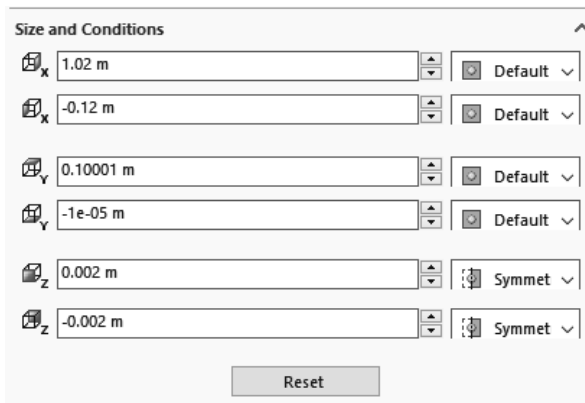
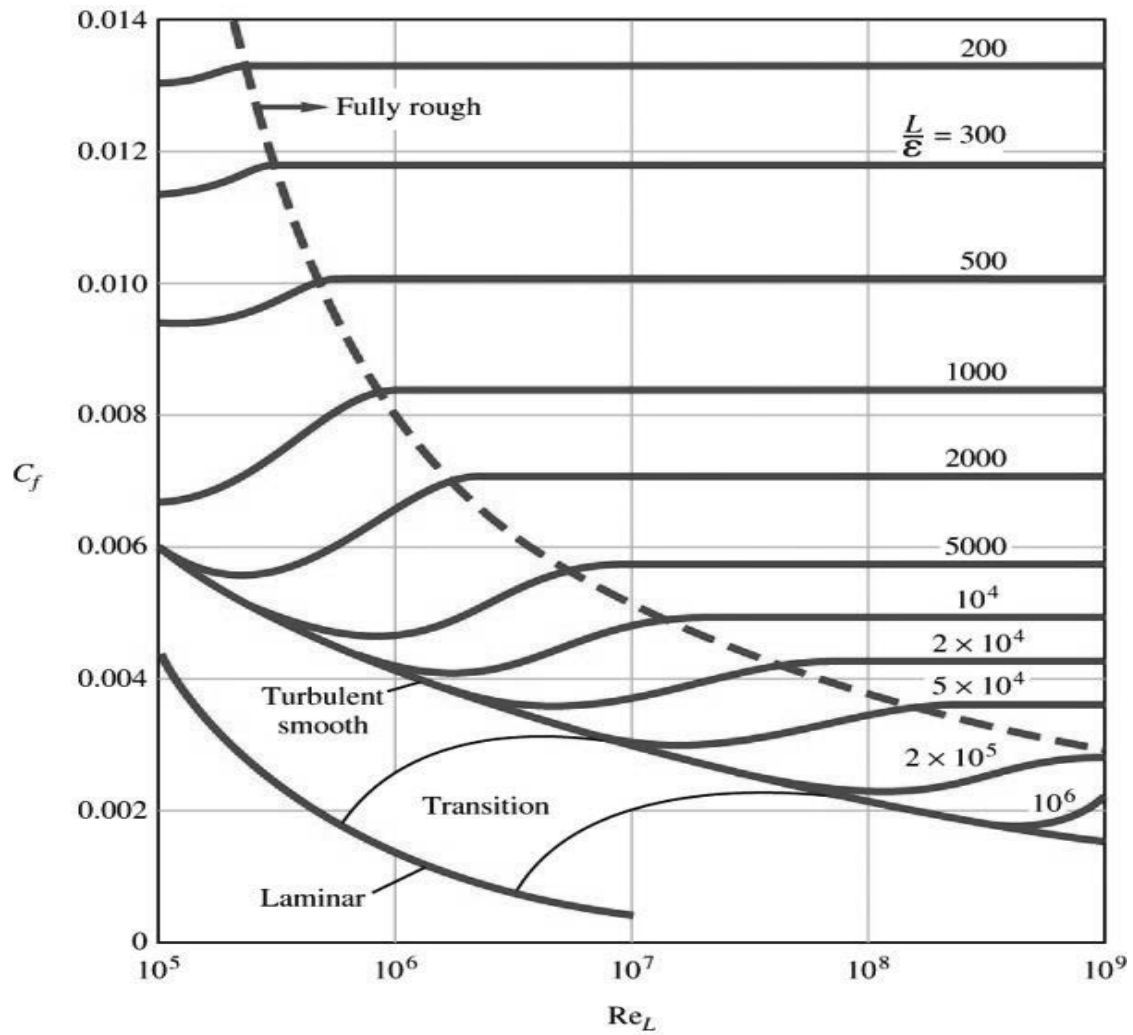

Figure 2.28a) Setting the size of the computational domain
Figure E3. Average friction coefficient for flow over smooth and rough flat plates, White (1999)
28. Select the tab **Flow Simulation>>Computational Domain...** Set the size of the computational domain to the values shown in figure 2.28a). Click on the **OK** button to exit. Select **Tools>>Flow Simulation>>Global Mesh...** from the SOLIDWORKS menu, select **Manual Type** and change the **Number of cells per X:** to **400** and the **Number of Cells per Y:** to **200**. Also, click on **Control Planes**. Change the **Ratio** for **X** to **-5** and the **Ratio** for **Y** to **-100**. Click on the green check mark above Ratio for Y min – Y max, see Figure 2.28b). This will increase the number of cells close to the wall where the velocity gradient is high. Select **Tools>>Flow Simulation>>Calculation Control Options...** from the SOLIDWORKS menu. Change the **Maximum travels value** to **5** by first checking the box for **Travels** under the **Finishing** tab and changing to **Manual** from the drop-down menu. Set the value to **5**. Travel is a unit characterizing the duration of the calculation. Click on the **OK** button to exit.
The average friction coefficient over the whole plate C_f is a function of the surface roughness for the turbulent boundary layer and also a function of the Reynolds number based on the length of the plate Re_L , see figure E3 in Exercise 8. This friction coefficient can be determined in Flow Simulation by using the final value of the global goal, the X-component of the Shear Force F_f and dividing it by the dynamic pressure times the area A in the X-Z plane of the computational domain related to the flat plate, see figure 2.28a) for the size of the computational domain.
- 2.8 Use different fluids, surface roughness, free stream velocities and length of the computational domain to compare the average friction coefficient over the entire flat plate with figure E3.